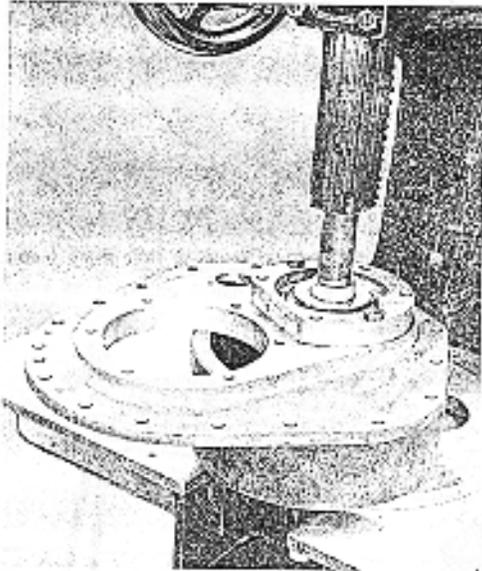

Figure 32. Extracting Pinion Shaft from Bearing Retainer using Press.
2. With suitable press extract pinion shaft out of bearing retainer. See fig.32.